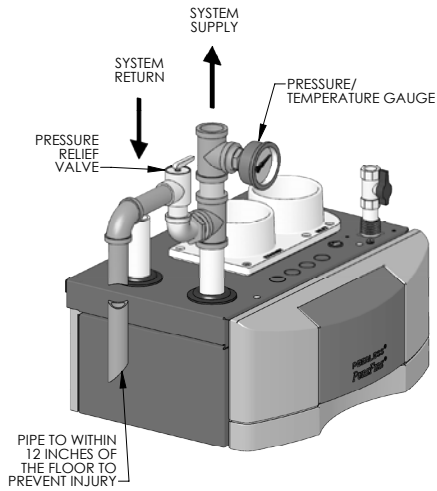

Figure 4.2: Relief Valve Installation – PF-50, PF-80, PF-110 & PF-140
- 1. *Pressure/Temperature Gauge*: A combination pressure/temperature gauge is provided with each *PUREFIRE*® boiler to be mounted in the piping from the boiler supply to the system as shown in Figure 4.2 & 4.3. Most local codes require this gauge.
The valve is to be installed as shown in Figures 4.2 or